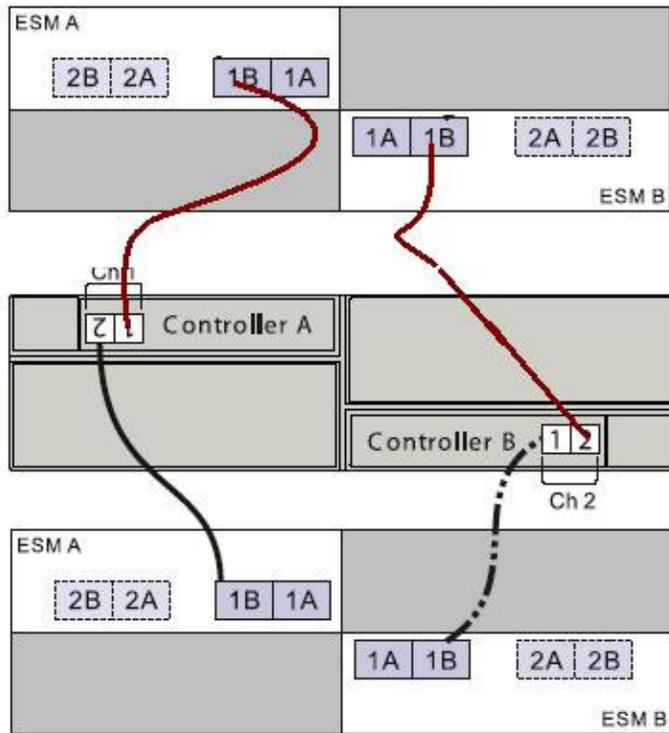

Figure 25. Round-robin cabling to the EXP395
- It is recommended that you add storage expansion enclosures to the EXP395 drive ports in a round-robin fashion. For example, if you have two EXP395s to be cabled to the DS3950, instead of cabling both EXP395s to one drive port of a drive channel, distribute the enclosures to all drive ports, which results in one enclosure per drive port of a drive channel. See Figure 25 on page 39 for an illustration.